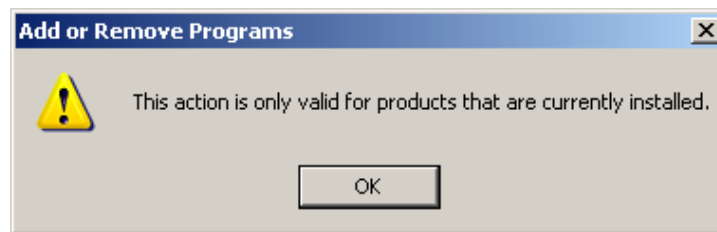

Figure II-31. Add or Remove Programs Warning Message
- Note:** After clicking **Remove** for some of the items listed below, you may see the message shown in Figure II-31. If so, click **OK** and continue.